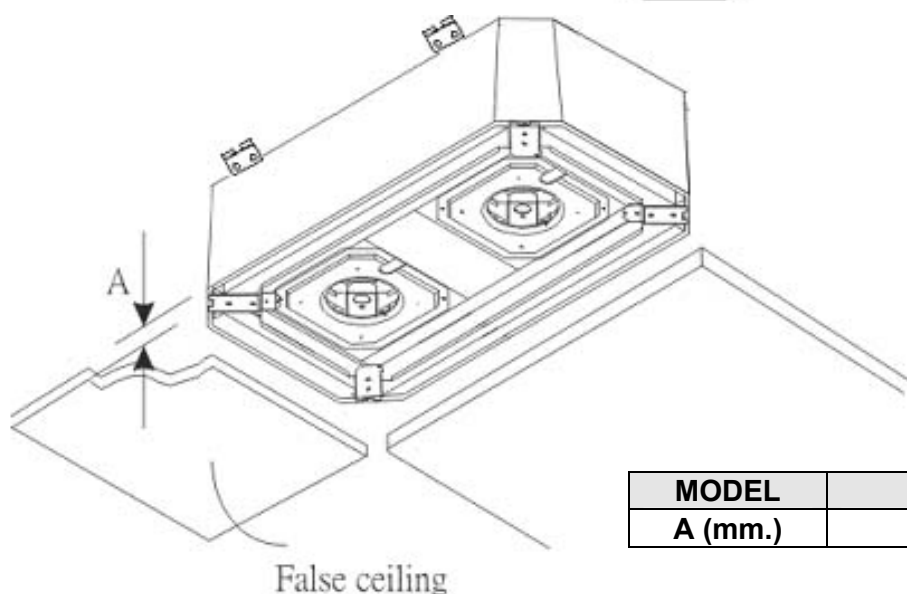

Fig. 15
7. Using a level guide, line up the unit with a spirit level, and keep dimension between the body and the lower part of the false ceiling (Fig.12 Fig.15).